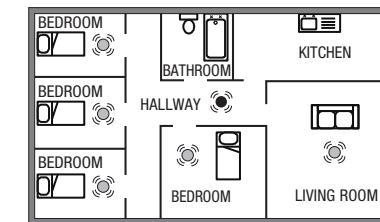

Figure 1. Single-level home
**Single-level home:** To achieve minimum protection, position the alarm in the entrance hall between the living areas (including the kitchen) and the sleeping areas. Position it as close as possible to the living areas, and make sure the alarm can be heard by anyone in the bedrooms. See Figure 1, for example: